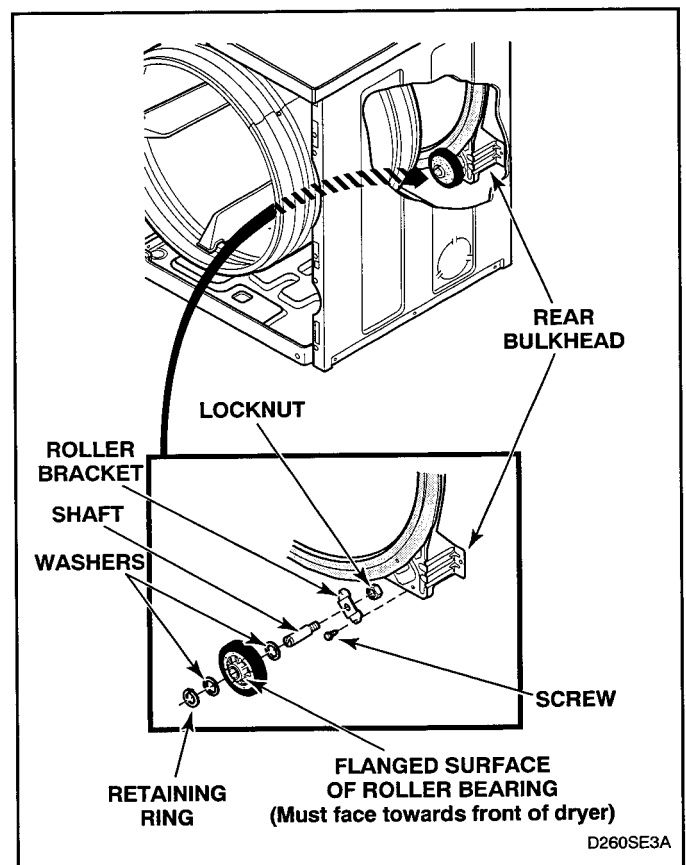

Figure 5-30
- Pull cylinder forward allowing rear of cylinder to drop down exposing rollers. See figure 5-30.
- See figure 5-30 for removal of roller from bulkhead.